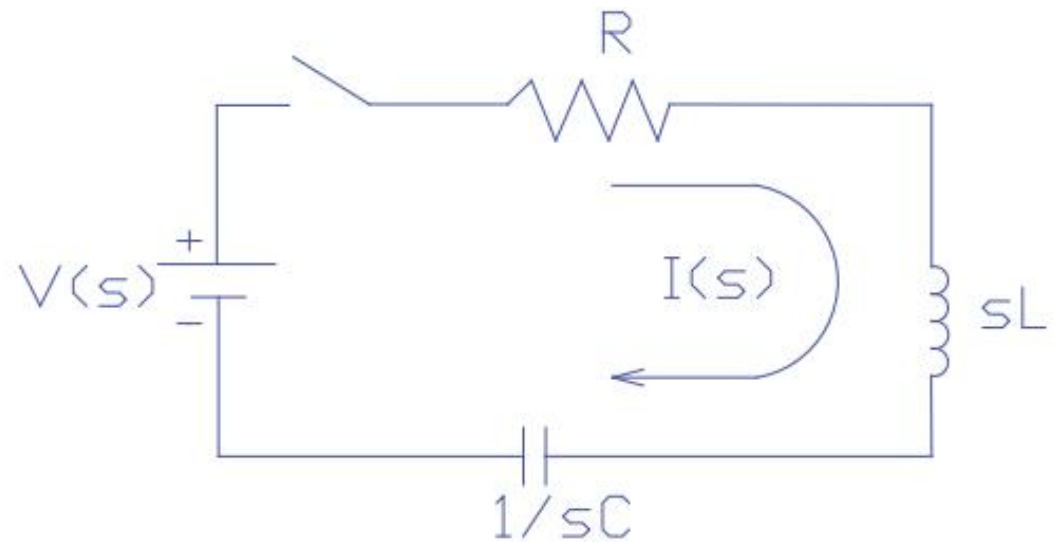

Figure 7: Transmission Line Energization.
- Consider the series RLC circuit shown in **Figure 7** for analysing a switching transient.